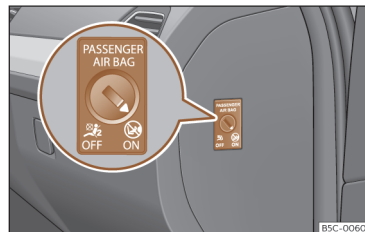

Fig. 27 Switch for activating and deactivating the front passenger airbag.
- Insert the key blade into the slot provided in the front passenger airbag disconnection switch >>> **Fig. 27**. About 3/4 of the key should enter; this is as far as it will go.